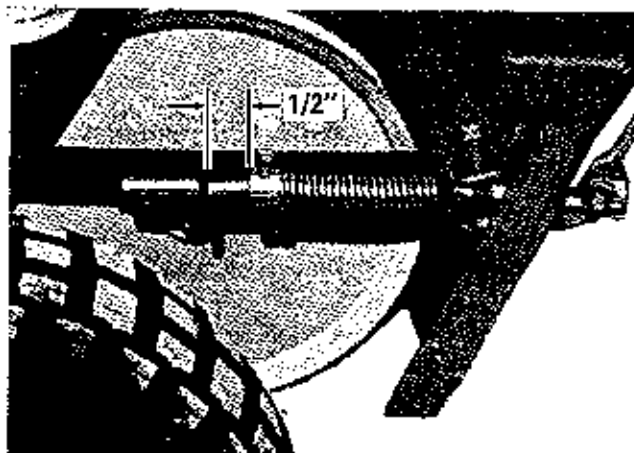

Figure 11
3. Belt tension for the auger drive is regulated by the position of the set collar on the Auger Control clutch rod. With the Auger Control lever engaged, there should be 3/8" to 1/2" clearance between the collar and the front ear of the rod bracket. Loosen the square-head setscrew to position the stop collar. See Figures 11.